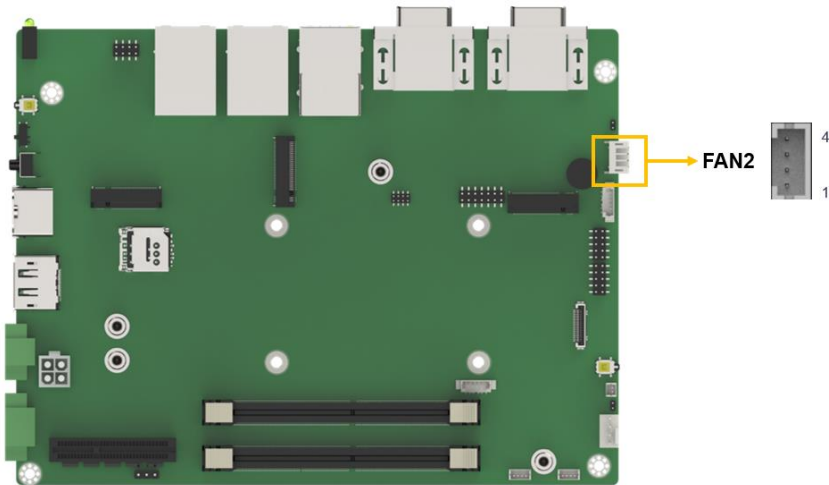

Figure 4-26: System Fan Connector Pinout Locations
- CN Location: See Figure 4-26